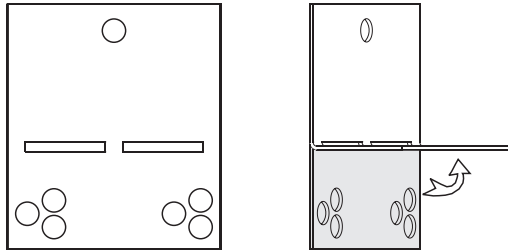

Figure 40
4. Nailing flanges are provided. The flanges included are flat but easily bend to form a right angle. Locate the pairs of holes on the side of the fireplace that will place the outside of the wall covering at the 1/16-inch past the fireplace opening. **See Figure 40.**